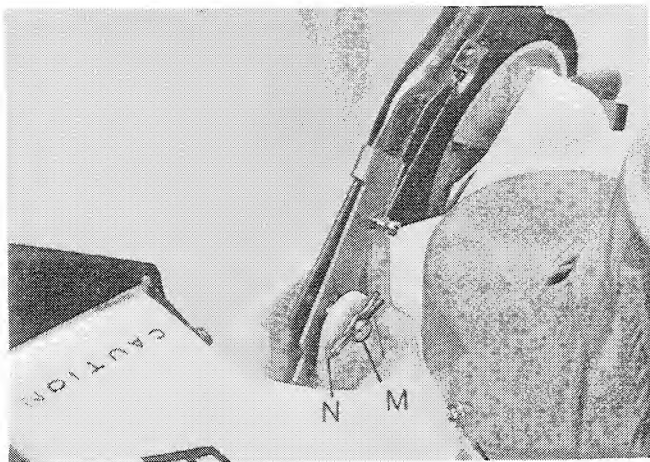
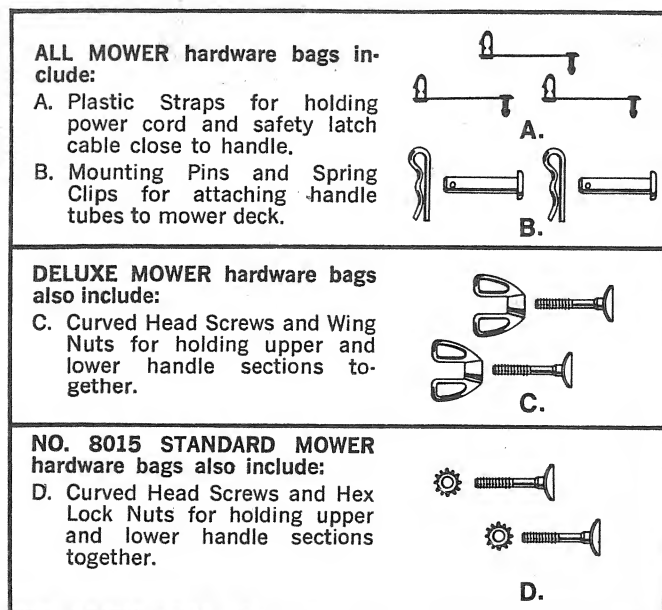
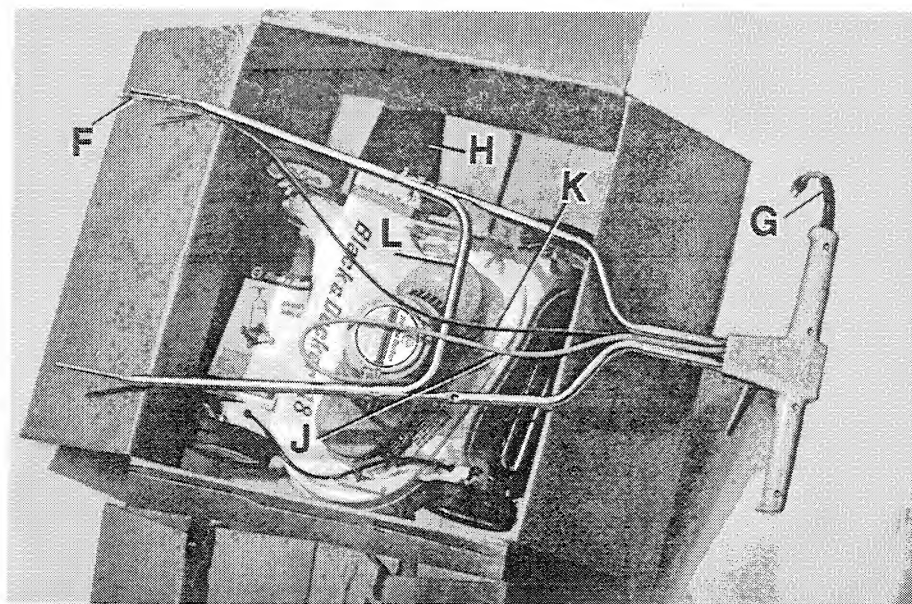
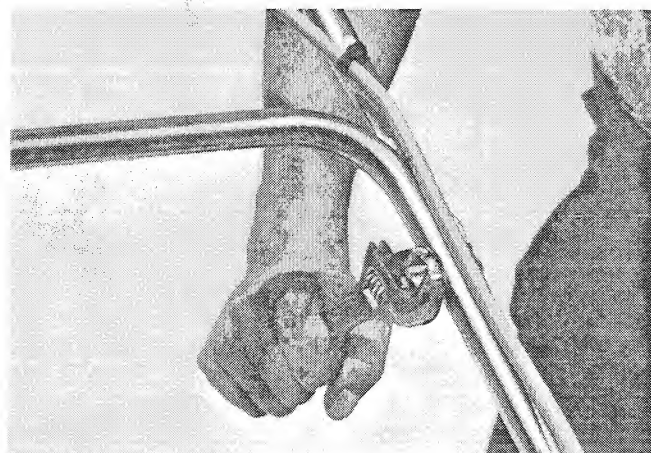

FIGURE 5
FIGURE 1
FIGURE 2
FIGURE 4
- (3) Attach handle to mower deck with 2 mounting pins "M" (Figure 5) and 2 spring clips "N". Pins and clips are item "B" in Figure 1.
- (1) Open carton and remove cardboard fillers and 2 plastic hardware bags (contents shown in Figure 1).
- (2) Without removing mower from carton, fasten upper and lower handle sections together as shown in Figures 2 & 3, with curved head bolts and wing nuts (Item "C", Figure 1). No. 8015 MOWER ONLY — Use curved head bolts & hex nuts (Item "D", Figure 1) for handle assembly (Figure 4). This handle is not designed to fold for storage.
Handle must be assembled so that the sliding safety-latch "F" (Figure 2), and the power cord plug "G" are on the same side as the grass discharge opening "H". Place power cord "J" and safety latch cable "K" OVER handle cross-member "L".